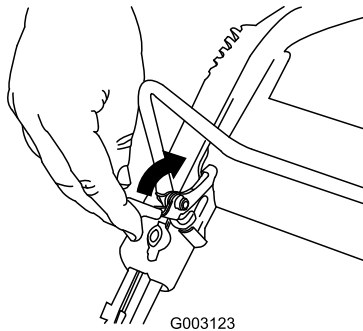

Figure 22
1. Pull the control-bar lock back (Figure 22).